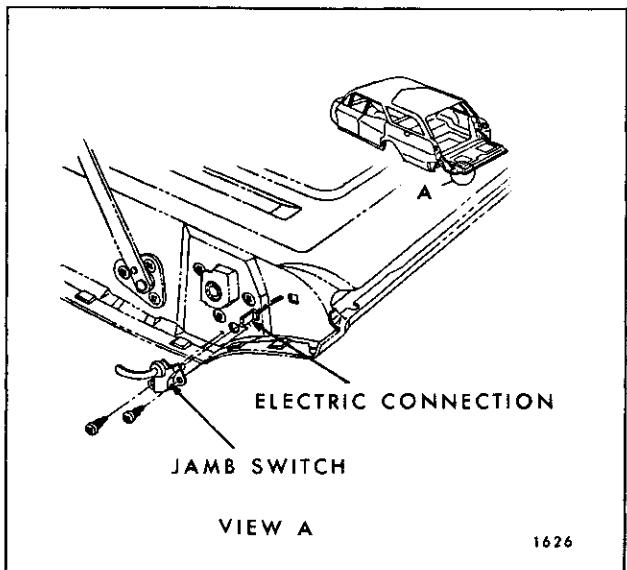

Fig. 9-14—Tail Gate Jamb Switch
1. Remove jamb switch to tail gate attaching screws, disconnect attached feed wire and remove switch (See Fig. 9-14).
NOTE: Figure 9-14 illustrates the jamb switch on "B" styles. "A" styles are similar but attached on the right side of the gate.